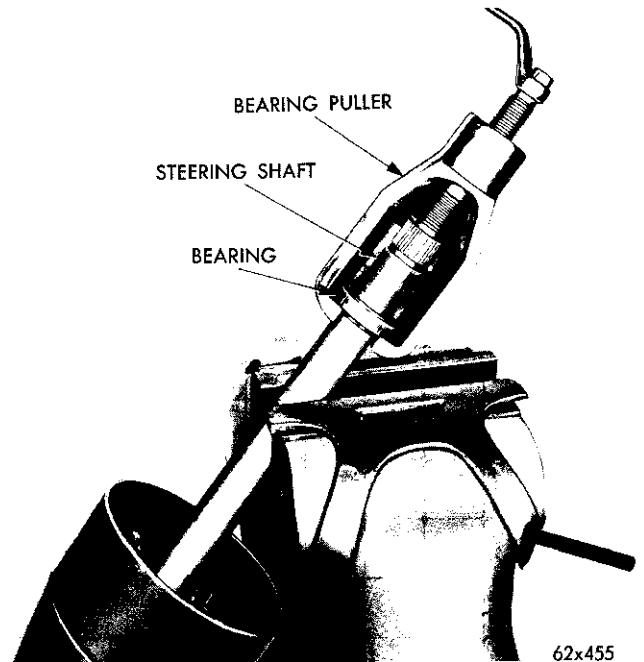

Fig. 7—Removing Steering Shaft Bearing
(6) Using bearing puller Tool C-3891, remove the steering shaft upper bearing (Fig. 7).
(7) Remove the lower snap ring and slide the steering shaft and coupling assembly down, and out of the steering column jacket assembly.
(8) Remove the column jacket lower seal from the steering shaft.